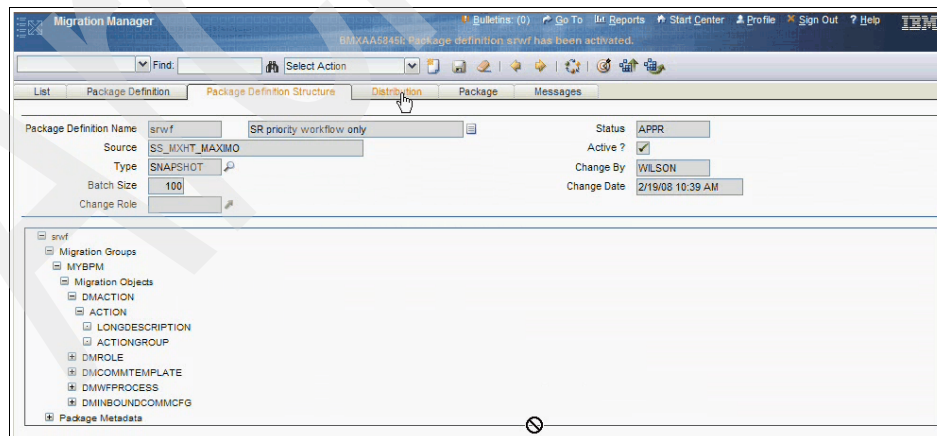

Figure 8-29 Package definition structure
13. You can view the package definition in a tree structure, using the Package Definition Structure tab. This view shows all package definition information in a parent-child relationship, as you can see in Figure 8-29.